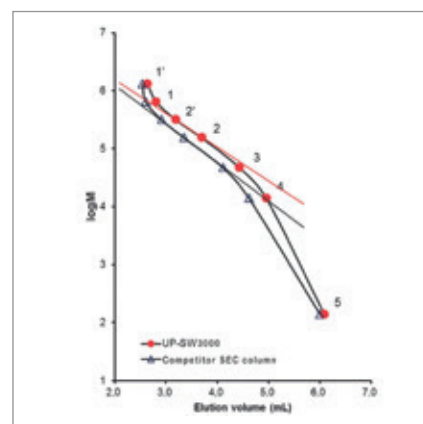

Figure 1: Comparison of Calibration for TSKgel UP-W3000 and a Competitor Column
The calibration of TSKgel UP-SW3000 shows a slightly shallower slope in the region of the molecular weight of  $\gamma$ -globulin than the one of a competitor 1.7 micron UHPLC column (figure 1). These differences in the separation range and steepness of the curves are related to a slight difference in pore size (25 nm for TSKgel versus 20 nm for the 1.7  $\mu$ m material).
Analysing high- and trace-level components in a single run Markes' TD splitting technologies offer a particular advantage for aroma profiling because of their ability to run a single sample twice, using different split ratios to accurately measure trace-level and high-concentration components in the same sample (Figure 1). In this case, the sample was desorbed using a 'high split' (51:1), with a small volume being sent to the GC. This allowed the high-concentration components to be analysed without overloading the analytical system. The remainder was re-collected onto a fresh sorbent tube, and then desorbed as before but using a 'low split' (6:1) – sending a higher proportion of the sample to the GC. This allowed the trace-level components to be quantified more accurately.
Figure 1: Analysis of the VOC profile of extra-mature Cheddar. (A) High-split (51:1) conditions provide an indication of the quantities of high-concentration components. (B) Low-split (6:1) conditions aid identification of trace-level components (see inset). Example peaks are highlighted; for a full peak listing, please see Markes Application Note 101.